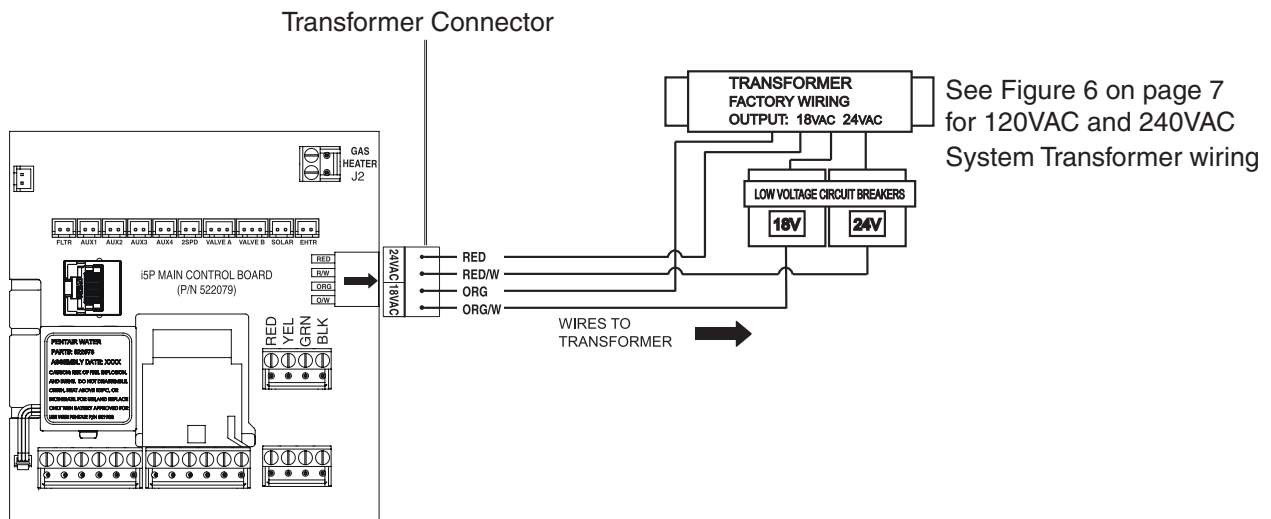

Figure 8. Wiring the System Transformer and Circuit Breakers to Outdoor Control Panel Motherboard
2. Connect the Transformer connector to the IntelliCenter™ Control System main motherboard. See Figure 8.